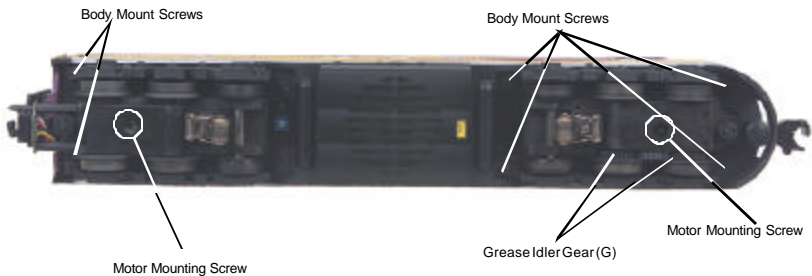

Figure 4
1. To access the gear box, remove the cab from the chassis by unscrewing the chassis screws as seen in Figure 4 and lifting the cab from the chassis.